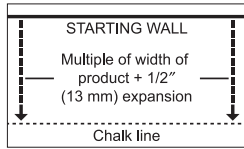

Figure 7
- In at least two places, at least 18" (46 cm) from the corner, measure out equal distance from the starting wall (Figure 7) the face width of the starter board plus 3/4" (19 mm) (do not include the width of the tongue in this measurement. Mark these points and snap a chalk line through them. This measurement allows for the required 1/2" (13 mm) expansion and the width of the tongue. Continue to Step 3: Mechanically Fastened/Stapled; Glue-Down; or Floating.